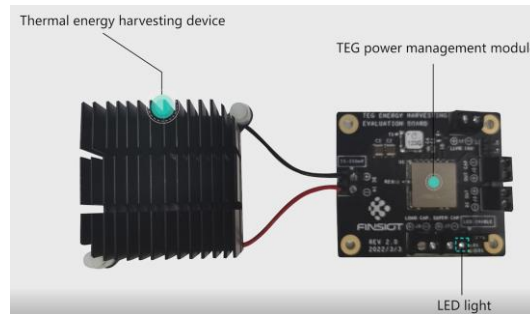

Figure 4
- Prototype using thermal energy (Figure 4)